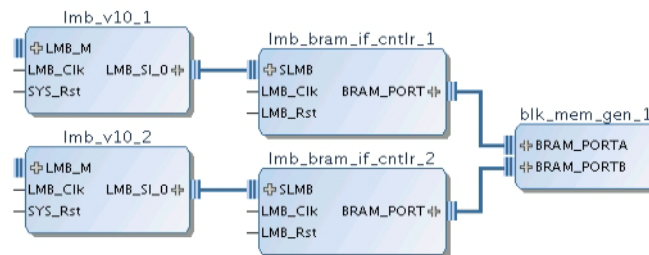

Figure 35: Creating Local Memory
3. Make the following connections. The connected system is shown in Figure 35.